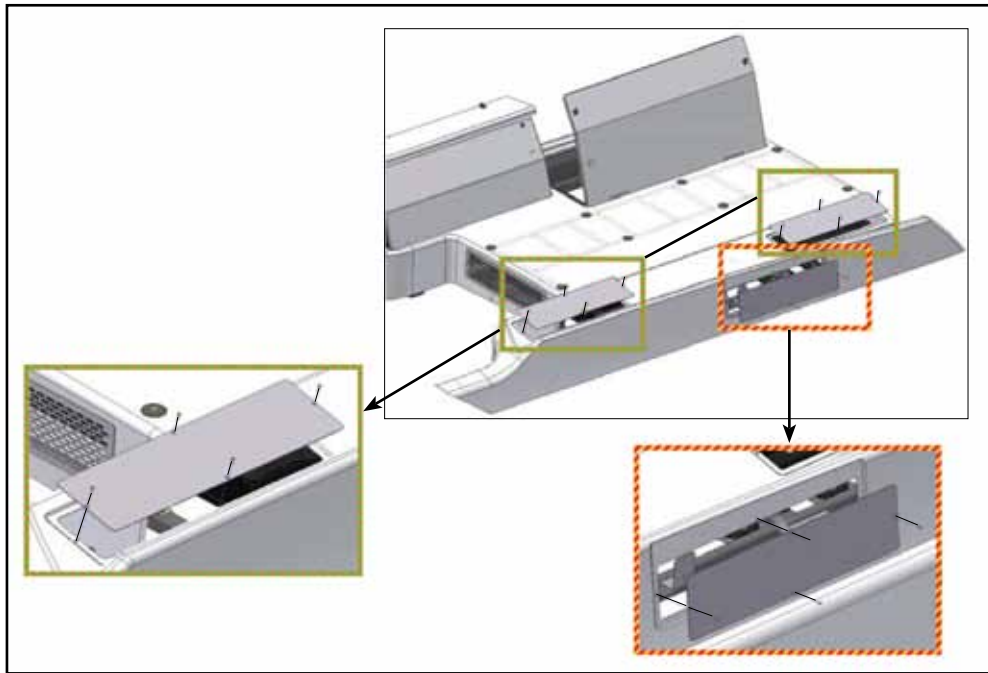

Figure 4 - Access Panels (Curbside of the Vehicle)
1.4 Remove the covers of the three access panels located on the curbside of the vehicle. See Figure 4.